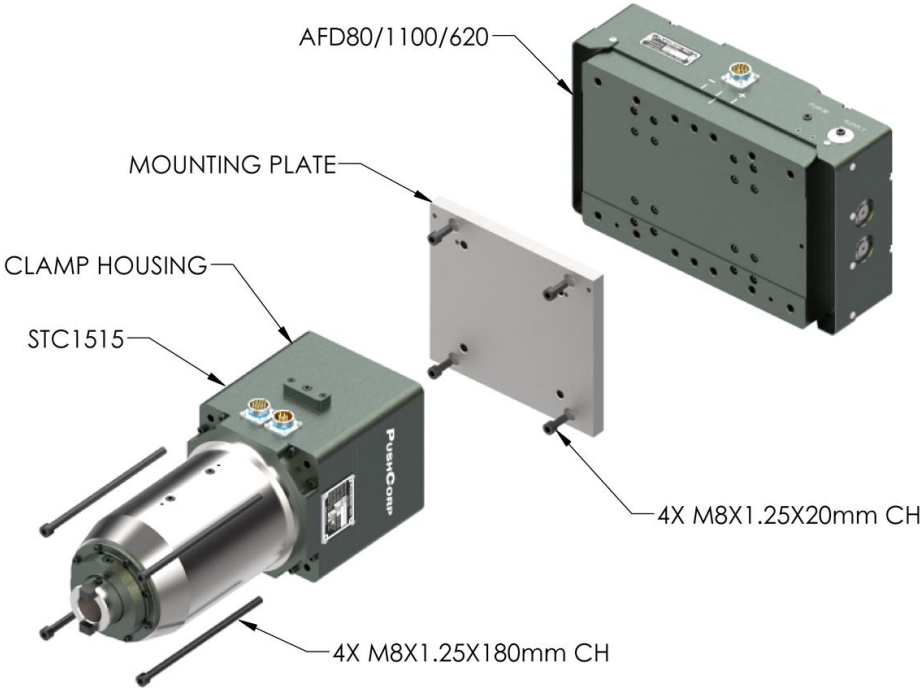

FIGURE 2: STC1515 PERPENDICULAR-AXIS CONFIGURATION
To attach the STC1515 to an AFD in a Perpendicular-Axis configuration, position the Clamping Housing over the Carriage as shown in Figure 2. Then secure the unit using four (4), M8x1.25x180mm, Socket Head Cap Screws. Tighten the fasteners to the torque specified in Section 4.0.